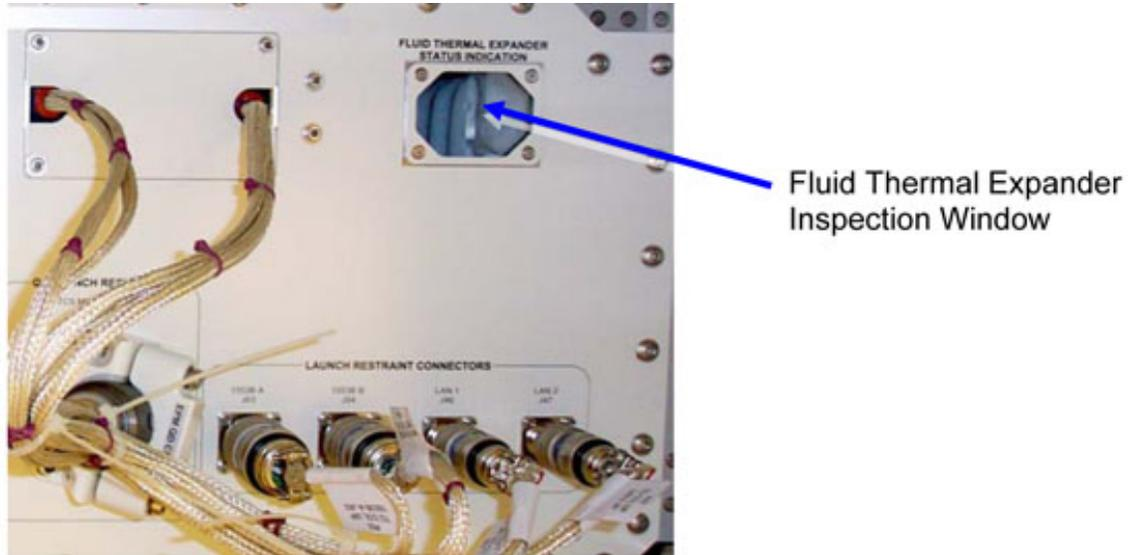

Figure 4-3 Fluid Thermal Expander Inspection Window
- 4.10 √Fluid Thermal Expander Status, Indicator Pin shall not be visible. Use flashlight for better visibility. (Refer to Figure 4-3).